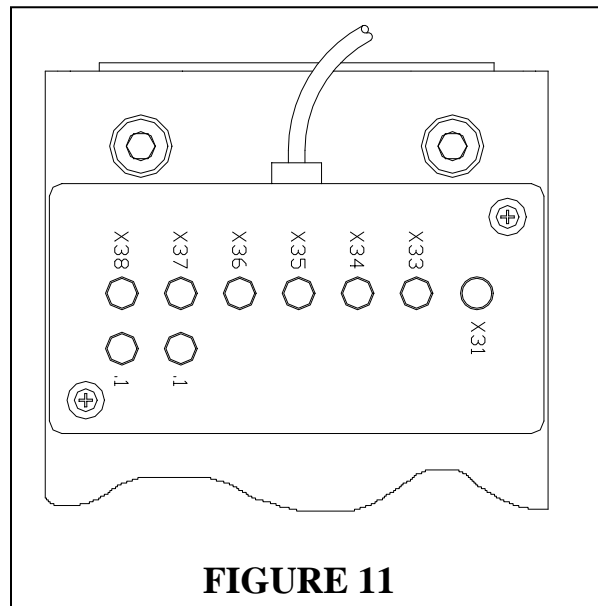

FIGURE 11
2. Run electrical conduit and wires for: pulse encoder cable, drive unit power leads, and receptacle cable. Plug all wires into the electrical receptacles located above the drive unit (**Figure 11**).